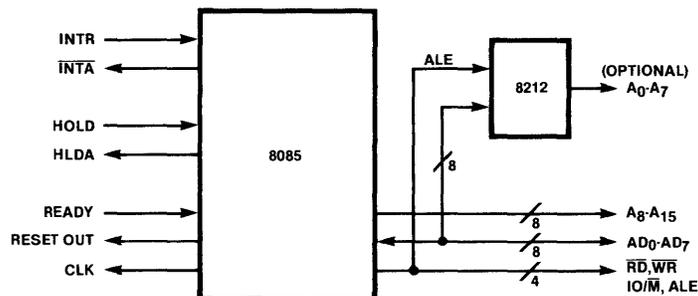

Figure 1-6. MCS-85 System Bus
- Hardware prototyping can begin with just a microprocessor socket and a system bus (Figure 1-6). You can use I/O ports in the Intellec system to simulate inputs and outputs that later will come from and go to the 'real world', the environment in which your system is to 'live'. The Intellec system ports can also give your system access to external diagnostic routines.